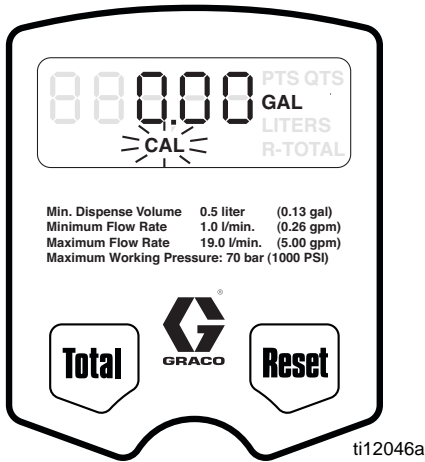

FIG. 15
- c. Press and hold Reset button again to display Calibration Menu. When this menu is displayed CAL blinks on the screen (FIG. 15).
Calibration (FIG. 15)